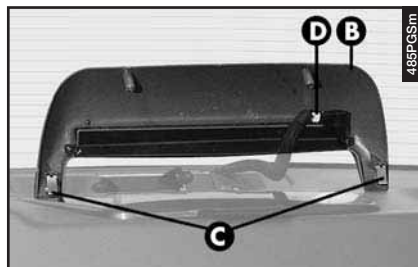

fig. 64
- Slacken the two screws fastening the light unit (**B**-**fig. 64**) and remove it releasing the two catches (**C**).
- Disconnect the connector (**D**-**fig. 64**) of the light unit.
- Connect the connector (**D**-**fig. 64**).
- Re-position the unit correctly firstly inserting the two catches (**C**-**fig. 64**) and then tightening the fastening screws.